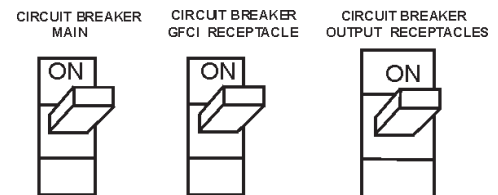

Figure 74. Main and GFCI Circuit Breakers
17. Turn the MAIN, GFCI and LOAD circuit breakers to their ON position (Figure 74).